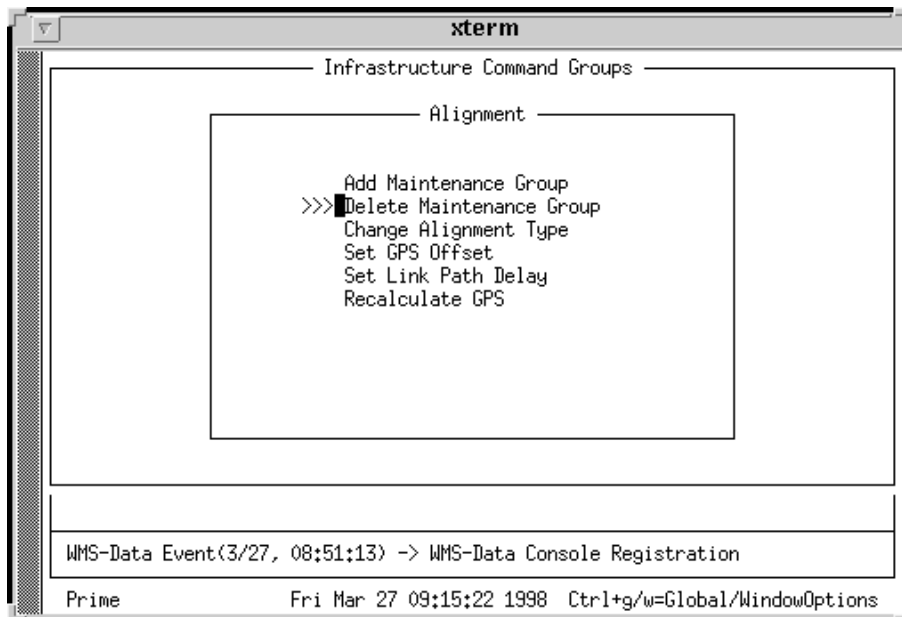

Figure 3-3: Alignment Menu—Delete Maintenance Group
1. From the Alignment menu, use the <tab> to position the cursor to the left of the listing Delete Maintenance Group and press: <Return> (see Figure 3-3).